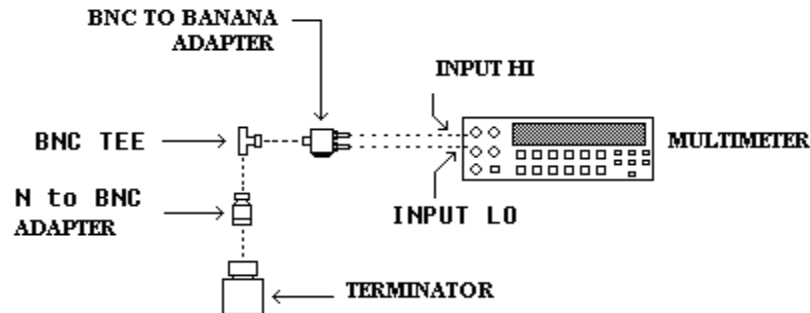

Figure 2. Termination check.
- (2) Press TI keys as indicated in (a) thru (c) below.
- (3) Wait for TI to finish self calibration.
- (4) Press TI keys as indicated in (a) thru (c) below.
- (5) Wait for TI to finish self test.
- (6) Connect equipment as shown in figure 2 below.
- (7) Setup multimeter to measure ohms.